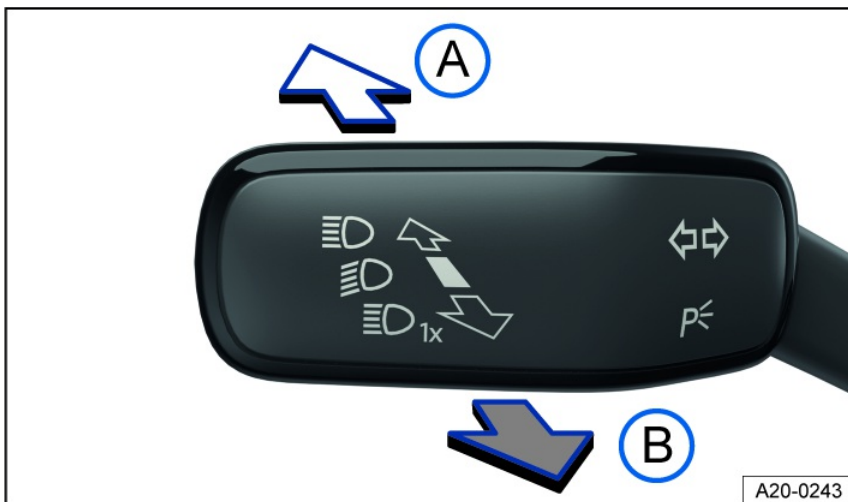

Fig. 95 On the left side of the steering column: turn signal and high beam lever.
3. Press the turn signal and high beam lever forward out of the center position *fig. 95*.
1. Pull the turn signal and high beam lever backward out of the center position *fig. 95*.
1. Pull the turn signal and high beam lever backward out of the center position and hold it *fig. 95*.